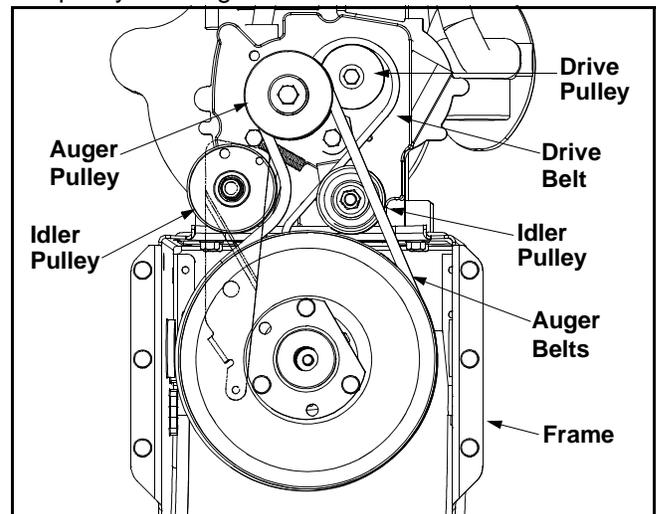

Figure 20
- Roll the front and rear auger belts off the engine pulley. See Figure 20.
- Pull the idler pulley up and lift the belt off the engine pulley and friction wheel disc. See Figure 20.